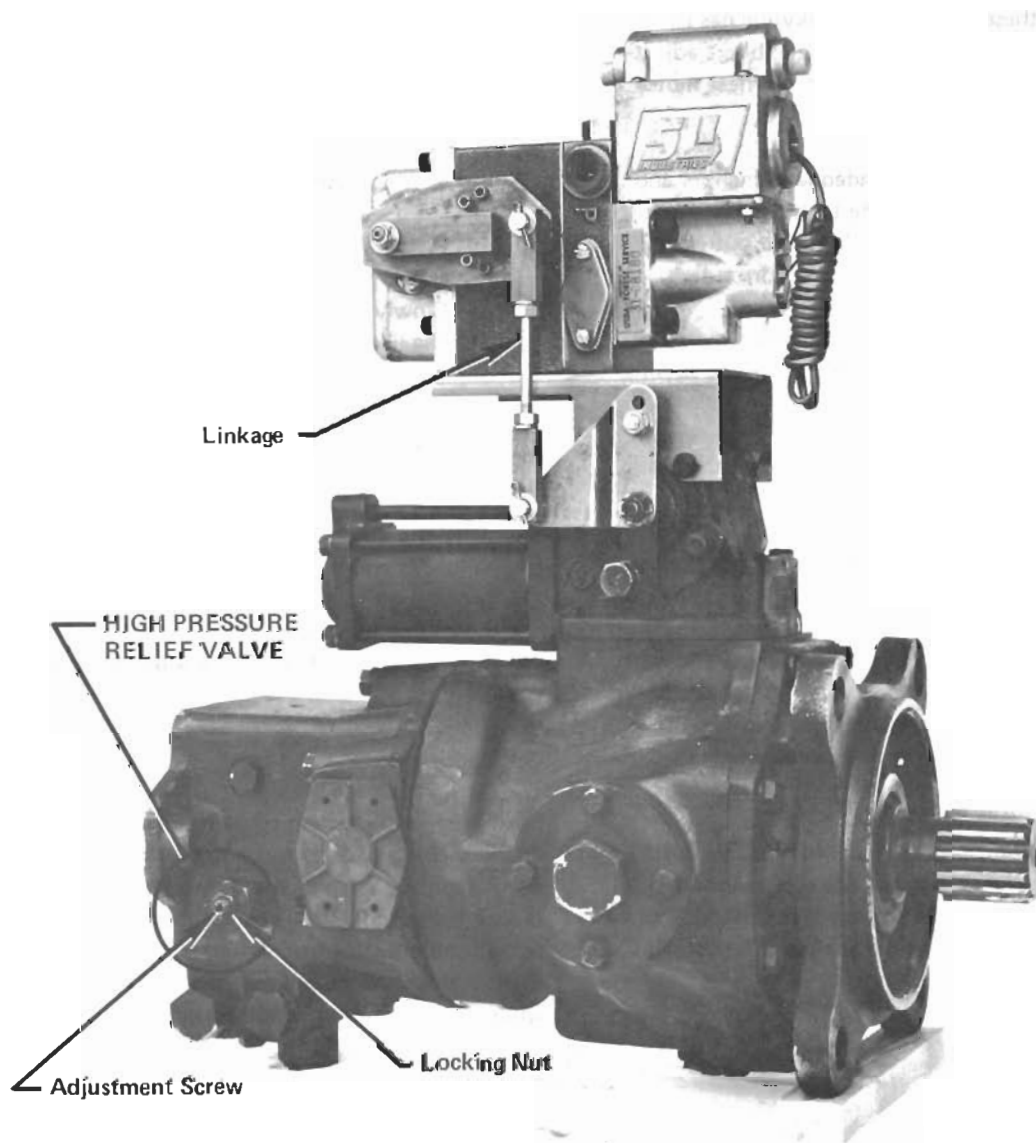

Figure 9.—Pump and controls.
3. Loosen the locking nut on the high pressure adjustment screw (fig. 9). (The relief valve adjustment screw is on the side of the pump opposite the high pressure outlet connection.)
If any winch drum rotates more than 2 rpm with its controller in neutral, its brake off, and no load on the cable, adjust the linkage (fig. 9) between the pump actuator (SLI part PCS-600) and the pump low pressure servo control (Dynapower part 892629). Follow the procedure in the pump actuator installation and service manual.